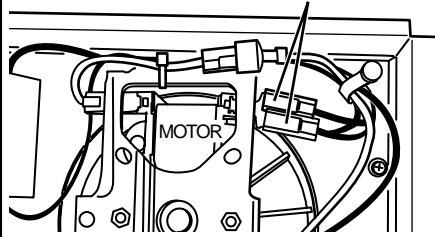

FIG. 11 - 120VAC TO 240VAC CONVERSION
2. 120 VAC to 240 VAC Conversion (FIGS. 11 & 12) (Factory-wired 120 VAC Models 170 and 174 ONLY) These heaters can be converted to operate on 240 VAC.
2. Conversión de 120 VCA a 240 VCA. (FIGS. 11 & 12) (SOLAMENTE Modelos 170 & 174 de 120 VCA cableados en fábrica).